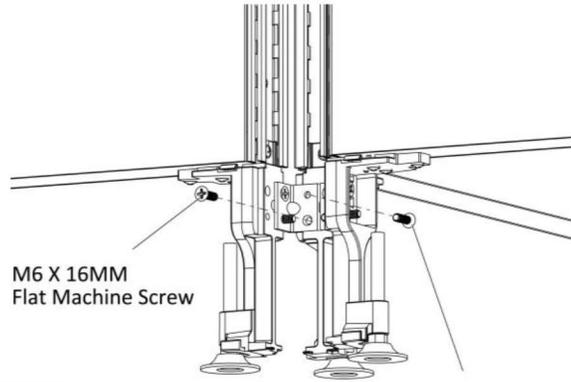

Figure 6
**14.** Secure the base with two M6 X 16MM, Flat Machine Screws, (Figure 6).